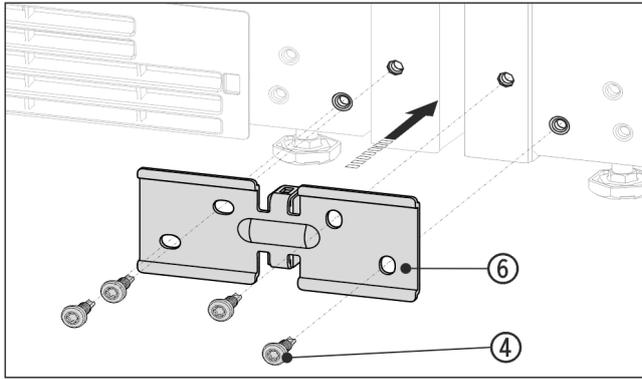

Fig. 15 Example illustration
- ▶ Slide the bracket Fig. 15 (6) on with the spacer between the appliances and screw in loosely with the 4 screws Fig. 15 (4).